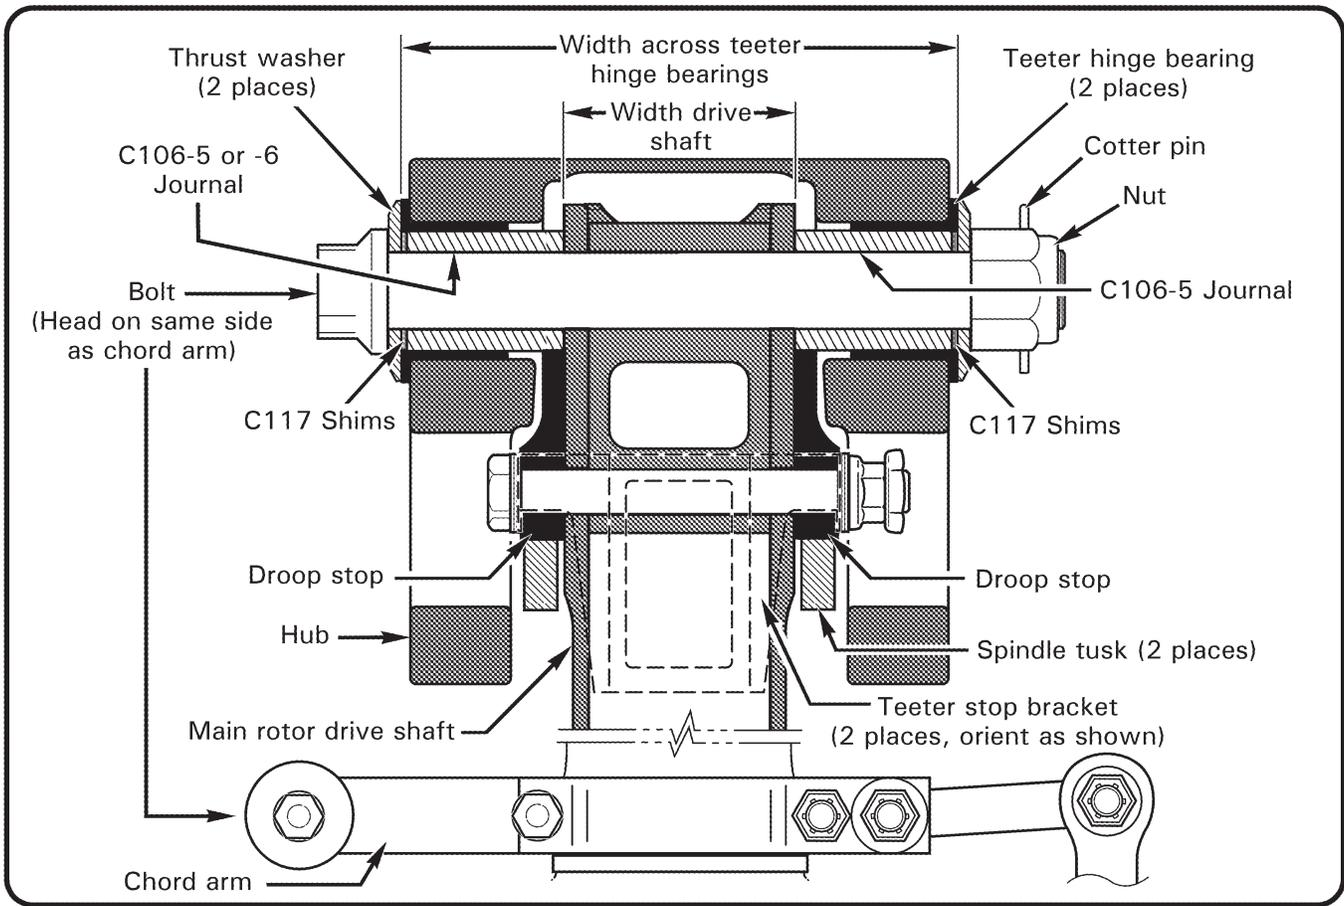
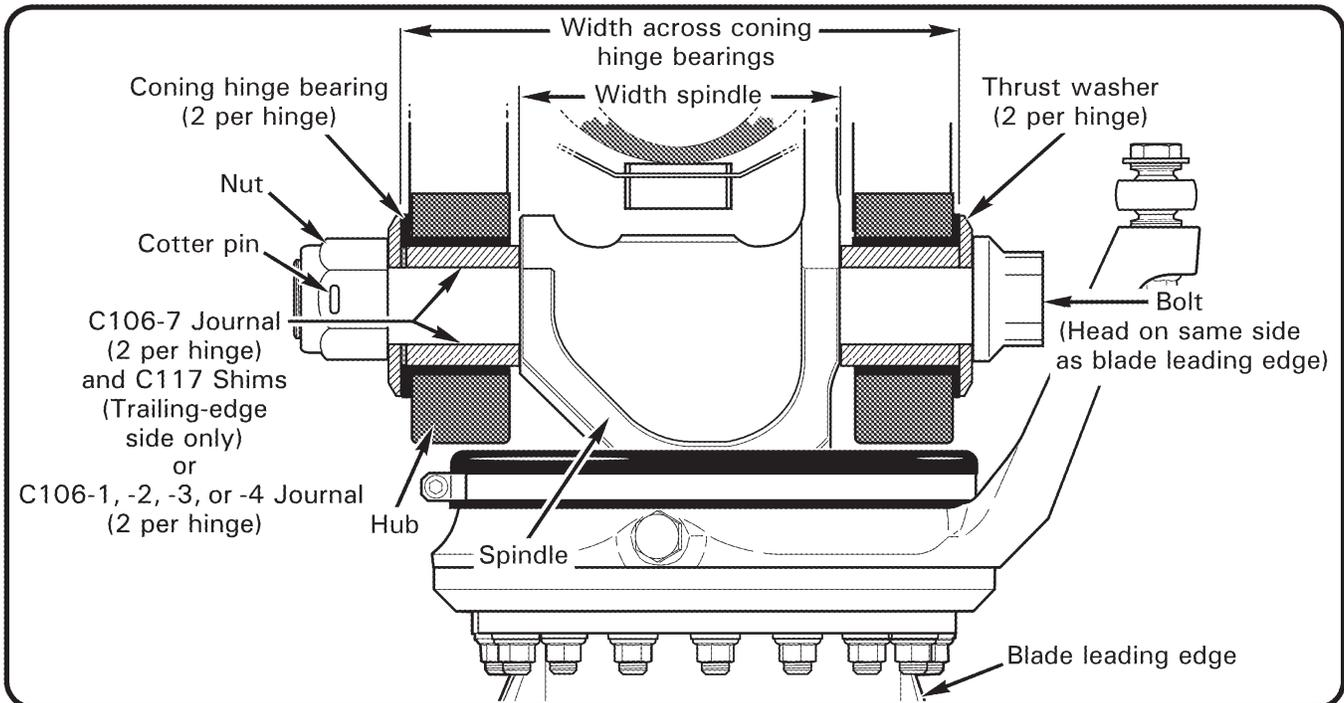

FIGURE 28-7 TEETER HINGE (HUB INSTALLATION)
FIGURE 28-8 CONING HINGE (BLADE INSTALLATION; VIEW LOOKING DOWN)
2. Refer to Figure 28-7. Mark rotor hub using a grease pencil, tape, or soft marker as follows:
3. Refer to Figure 28-7. Line up mark on hub with chord arm on drive shaft. Install teeter hinge bolt, thrust washers, shims, and journals (if previous installation information is available, install parts exactly as removed).
2. Refer to Figure 28-7 and Table 28-1. Remove cotter pin, nut, thrust washer, and nut-side C117 shims. Adjust teeter hinge friction by changing nut-side shim stack thickness in small increments; reducing shim stack thickness increases friction, increasing shim stack thickness reduces friction. Install shims, thrust washer, and nut.
1. Refer to Figure 28-8 and Table 28-1. Remove cotter pin, nut, thrust washer, and nut-side C117 shims (or journal). Adjust coning hinge friction by changing nut-side shim stack thickness (or journal length) in small increments; reducing shim stack thickness (or using a shorter journal) increases friction, increasing shim stack thickness (or using a longer journal) reduces friction. Coning hinge friction is zero when there is a measurable axial gap per Figure 28-7. Install shims (or journal), thrust washer, and nut.
2. Install nuts (dry); tighten nuts on hinge bolts until journals and thrust washers are firmly seated (snug). Measure gaps between thrust washers and hub bearing faces per Figure 28-8; verify total axial clearance at each hinge is between 0.002–0.006 inch.